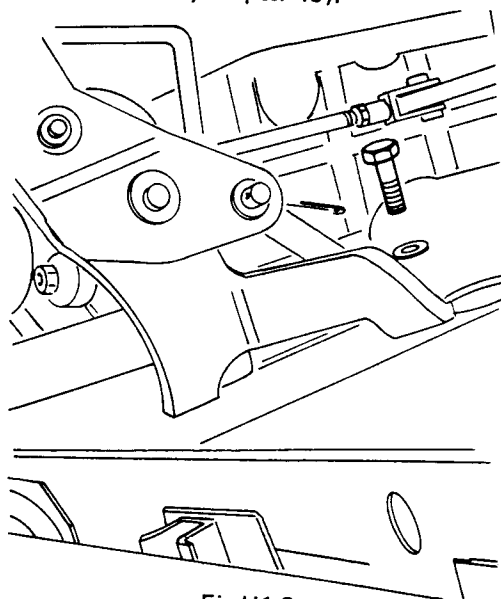

Fig H1.9
- (8) Refer to Fig H1.9. Replace the brake lever and relay mechanism.